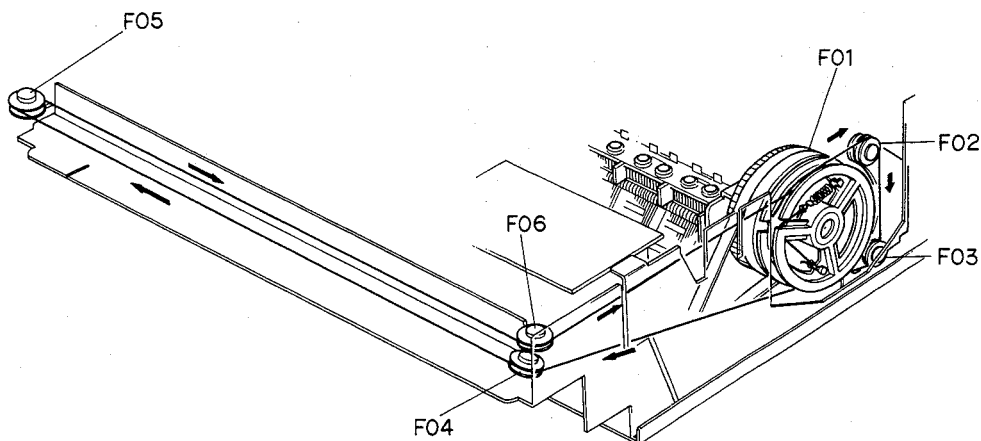

Fig. 5.1.6
- (2) Referring to Fig. 5.1.6, set the dial thread by way of F02 to F06 (pulleys) in that order, and wind the thread 2 turns on F01 (Front-end Reel Ass'y).